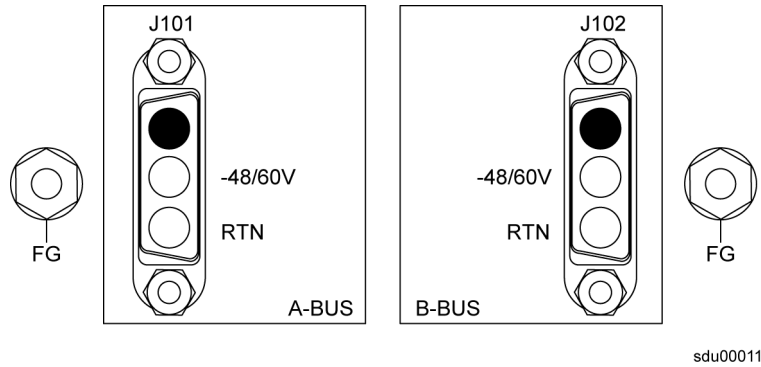

Figure 2-4. SSU-2000e Power Input Connector
Refer to Figure 2-4 for power connections. Pin 1 of each connector is not used. Pin 2 of each connector is $-48/60$ VDC and pin 3 is the Return. The $-48/60$ VDC power inputs have feed-through Pi-filters on each line through the front panel and DC Isolated from Frame and Logic ground. The power return connections are connected to Frame and Logic ground. Both the A-BUS and B-BUS power are fed to the individual module slots through the backplane.
1. Attach 1.29 mm^2 (minimum) stranded wire to two DA3W3P connectors (supplied) as shown in Figure 2-4.